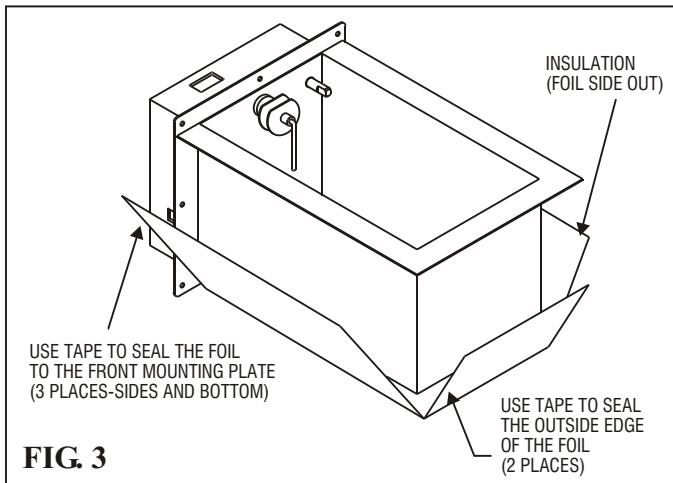

FIG. 3
1. Insulate the water reservoir. See figure 3.
3. Drill the (8) 1/8" mountings holes.